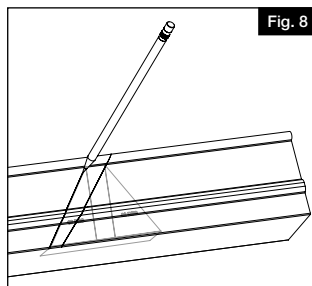
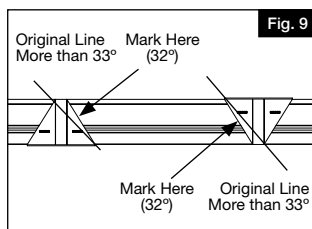
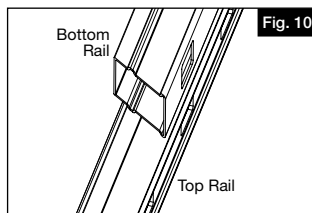
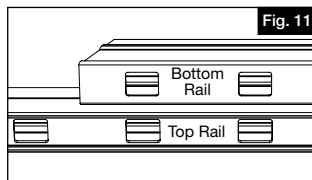

Fig. 8
Fig. 9
Fig. 10
Fig. 11
Locate and mark the center point on the underside of the bottom rail. Attach the rail support to the bottom rail using the supplied set screw (Fig. 8).
Lay bottom rail on a clean smooth surface and snap balusters into routed holes (Fig. 9). Then repeat the process to connect the top rail (Fig. 10).
Slide brackets onto ends of rails (top and bottom) (Fig. 11).
- From the original line created by the post, mark another line $\frac{1}{16}$ " on the inside of the bottom rail (closer to the baluster routes) (Fig. 8). This is accomplished by using the angle template (Fig. 9). This additional removal of material will allow for bracket clearance when the rail is installed. For this 34°-38° angle, the new line will NOT be parallel to the previously drawn line.
Place top rail flat on table. Lay the cut bottom rail on top of the top rail, with the routed holes facing in the same direction (Fig. 10). Line up the routes (Fig. 11).